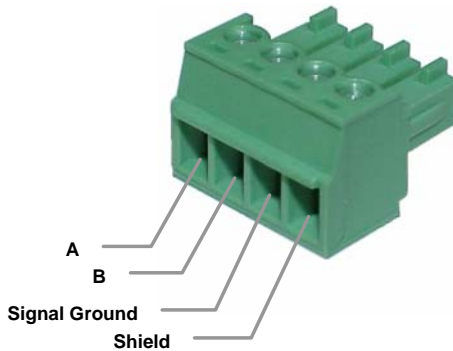

Figure 27: G7/Q7/H7/W7 RS-485 Terminal Block (CN3) Connections
- The Toshiba RS-485 terminal block connections for G7/Q7/H7/W7 drives are shown in Figure 27 for reference only. Because there are many possible RS-485 port configurations & options available for the various Toshiba drives, please refer to the relevant Toshiba documentation for your drive.